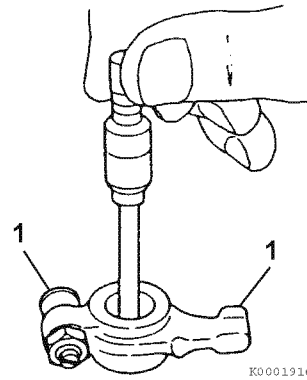

Figure 6-15
1. Use a test indicator and micrometer to determine if the inside diameter of all the rocker arm support brackets and the rocker arms (**Figure 6-15**) are within the specified limits. See *Rocker Arm and Shaft* on page 6-5 for the service limit.
2. Inspect the contact areas (**Figure 6-15, (1)**) for excessive wear or damage.